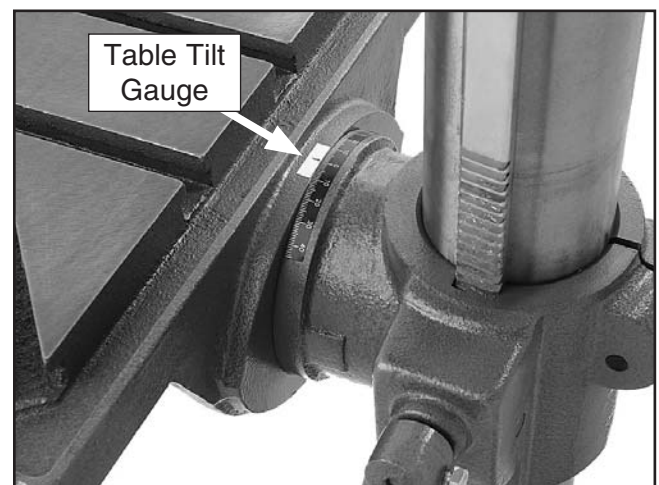

Figure 19. Adjusting the table tilt.
3. Align the table so that the table tilt gauge reads 0°, as shown in **Figure 19**.